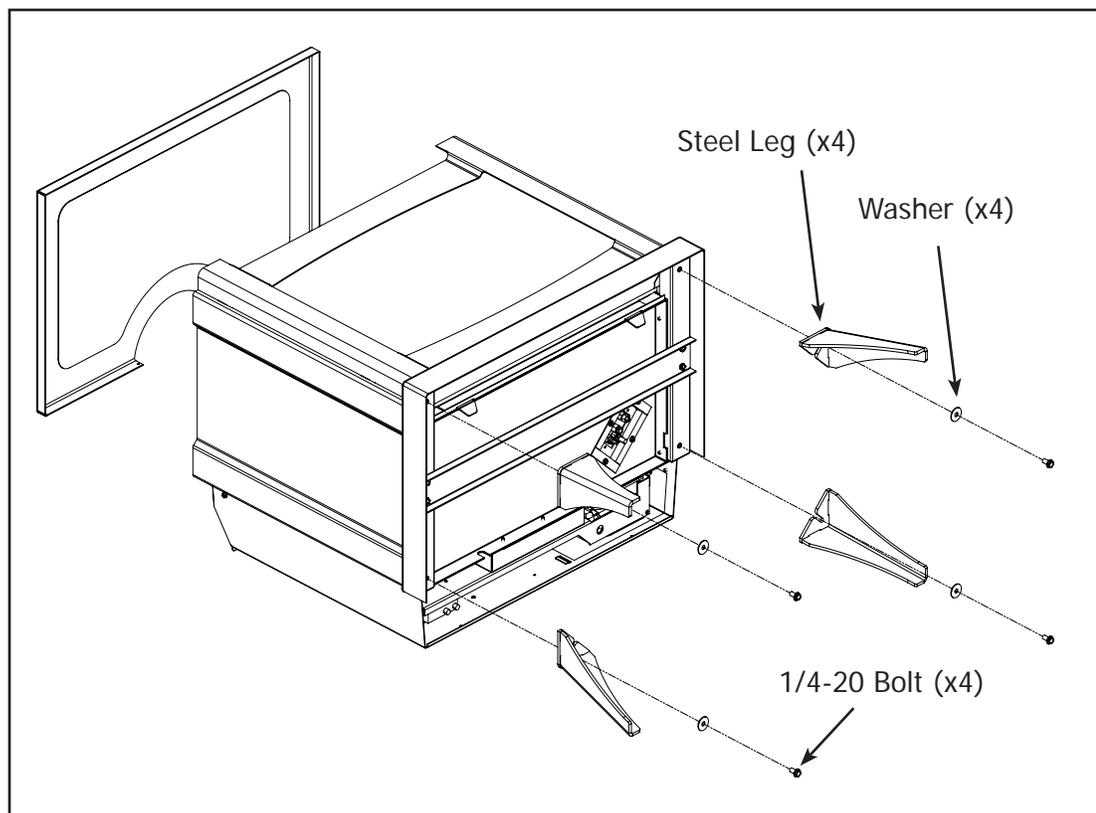

Figure 22: Leg Assembly
- Remove the stove top and carefully lay the unit down on its back and install the four steel legs using the supplied hardware and a 3/8" wrench or socket (see Figure 22). Stand the stove up.